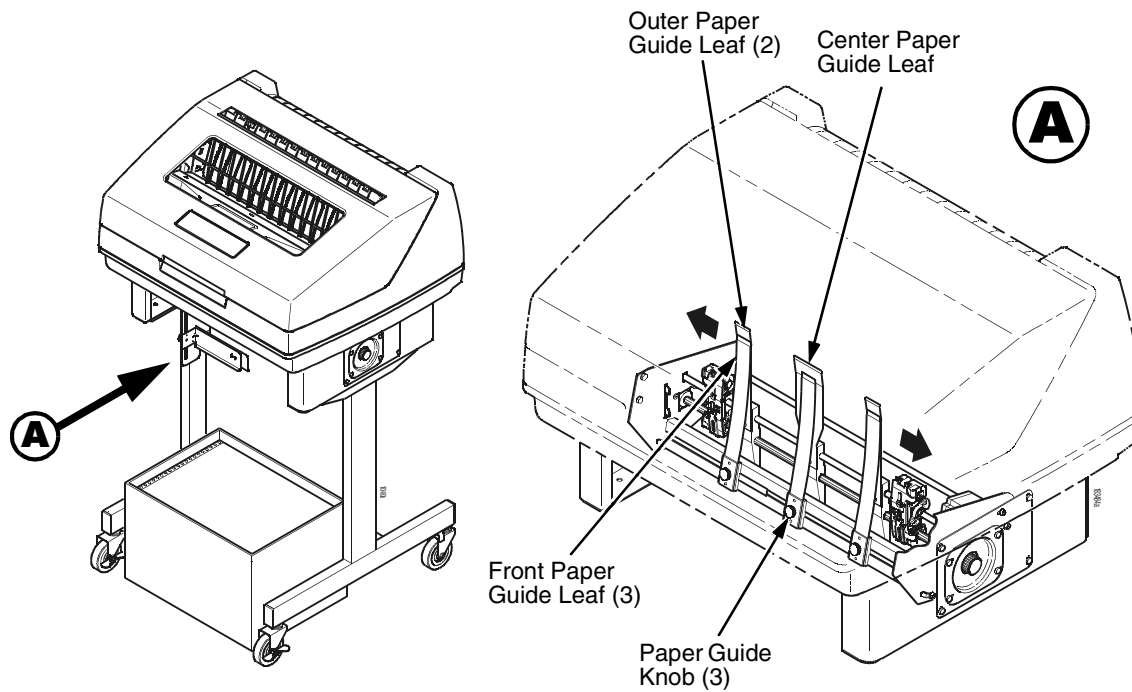

Figure 29. Adjusting The Paper Guides
1. Remove the left paper guide knob and the left, front paper guide leaf. (See Figure 29.)
7. Install the paper guide knobs and front paper guide leaves. (See Figure 29.)